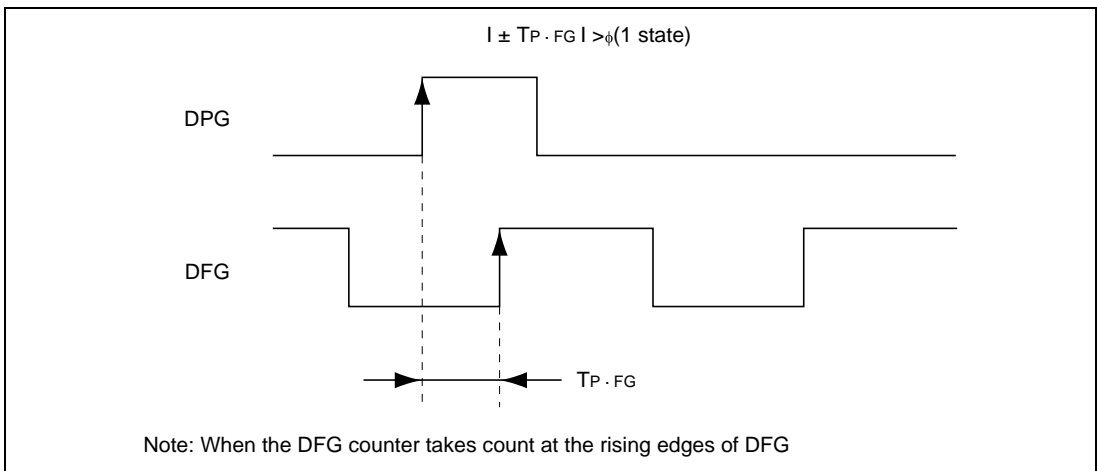

Figure 28.25 Input Timing of DPG and DFG
- (1) When both the 5-bit DFG counter and 16-bit timer counter are operating, the latter is not cleared if input of DPG and DFG signals is stopped. This leads to free-running of the 16-bit timer counter, and periodical detection of matching by the 16-bit timer counter. In such a case, the period of the output from the HSW timing generator is independent from DPG or DFG.
- (2) Specify the mode setting bit (LOP) of the HSW mode register 2 (HSM2) immediately before writing the FIFO data.
- (3) Input the rising edge of DPG and DFG count edge at different timings. If the same timing was input, counting up of DFG and clearing of the 5-bit DFG counter occurs simultaneously. In this case, the latter will take precedence. This leads to the 5-bit DFG counter's lag by 1. Figure 28.25 shows the input timing of DPG and DFG.
- (4) If stop of the drum system is required when FIFO output is being used in the 20-stage output mode, rewrite the SOFG bit of HSM2 register 0 $\rightarrow 1 \rightarrow 0$ by software, and initialize the FIFO output stage to the FIFO1 side without fail. Also clear and rewrite the data of FIFO1 and FIFO2.